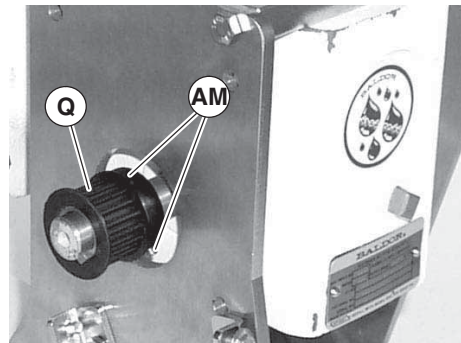
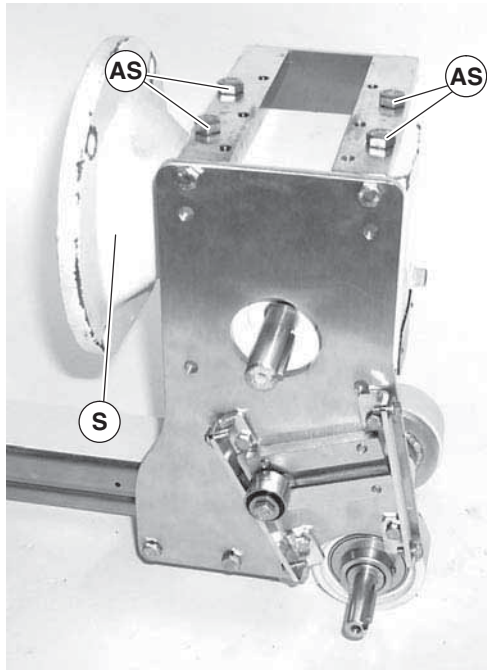

Figure 36
Figure 38
Figure 36 through Figure 38 shown gear reducer replacement procedure for a timing belt drive. Timing chain drive is similar except as noted.
- For a Timing Belt** – Loosen two drive pulley set screws (Figure 36, item AM) and remove drive pulley (Q).
- Remove four (4) gear reducer mounting screws (Figure 38, item AS). Remove gear reducer (S).
- Attach new gear reducer to bottom mount with four screws (AS).
- For a Timing Belt** – Install drive pulley (Figure 36, item Q) and tighten two set screws (AM).